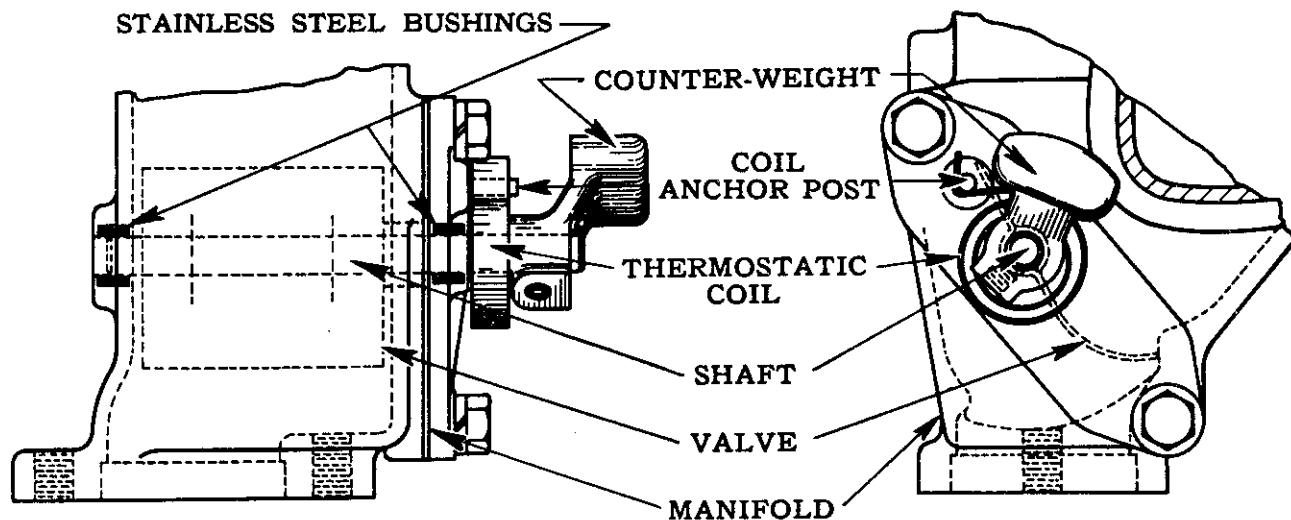

FIG. 177.—CONSTRUCTION OF THE CHAMPION MANIFOLD HEATER VALVE
**CHAMPION AND COMMANDER** Inlet manifold heater valves, being thermostatically operated, provide the correct amount of heat to the gasoline-air mixture which enters the cylinders. The construction of the heater valve used on each model is clearly illustrated in figures 177 and 178.